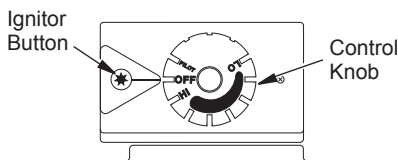

Figure 30 - Control Knob In The OFF Position
4. Wait five (5) minutes to clear out any gas. Then smell for gas, including near the floor. If you smell gas, STOP! Follow "B" in the safety information above. If you don't smell gas, go to the next step.
5. Turn control knob counterclockwise  to the PILOT position. Press in control knob for five (5) seconds (see Figure 30).